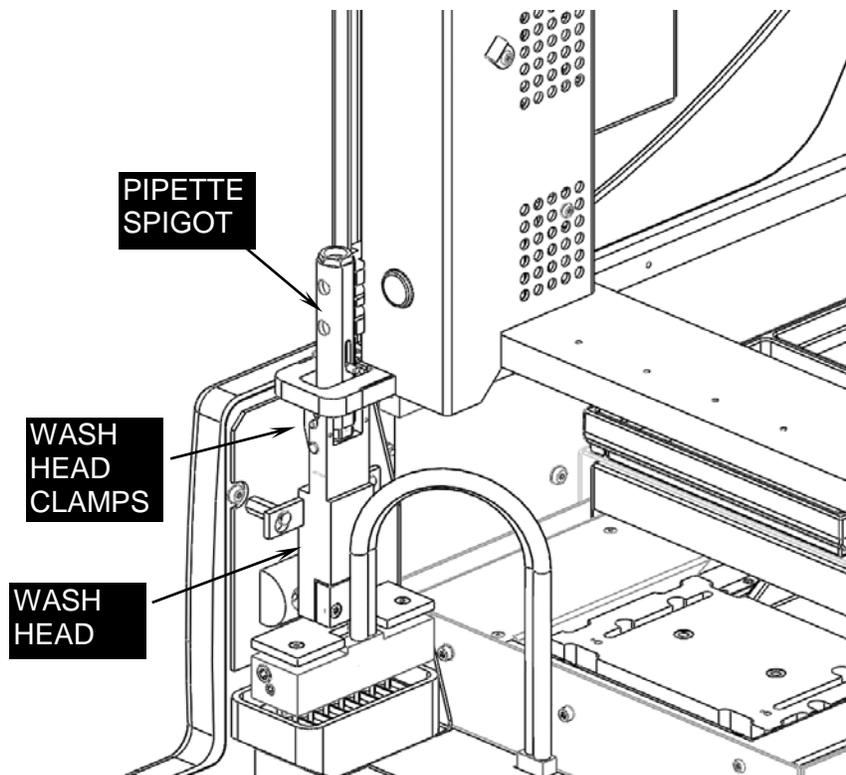

Figure 13-7: Sliding the Arm to above the Wash Head and Clamping the Spigot
2. Slide the XYZ Arm to above the Wash Head and engage the Pipette Spigot into the clamps of the Wash Head (Figure 13-7).